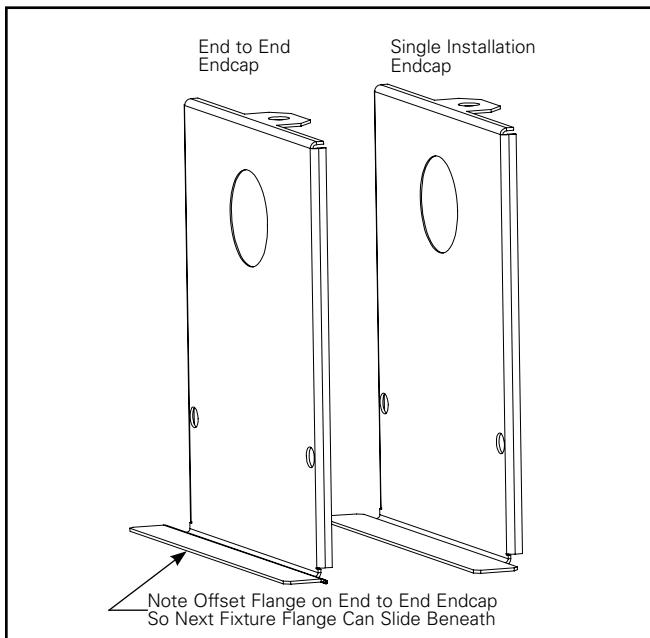

Figure 2.
2. Next, determine if the fixture will be installed alone, or end to end with other fixtures. If the fixture is to be installed alone, the endcap farthest from the access plate should be replaced with the single fixture drywall endcap. If the fixtures will be installed end to end, the endcap should be replaced with the end to end endcap. See Figures 2 and 3.